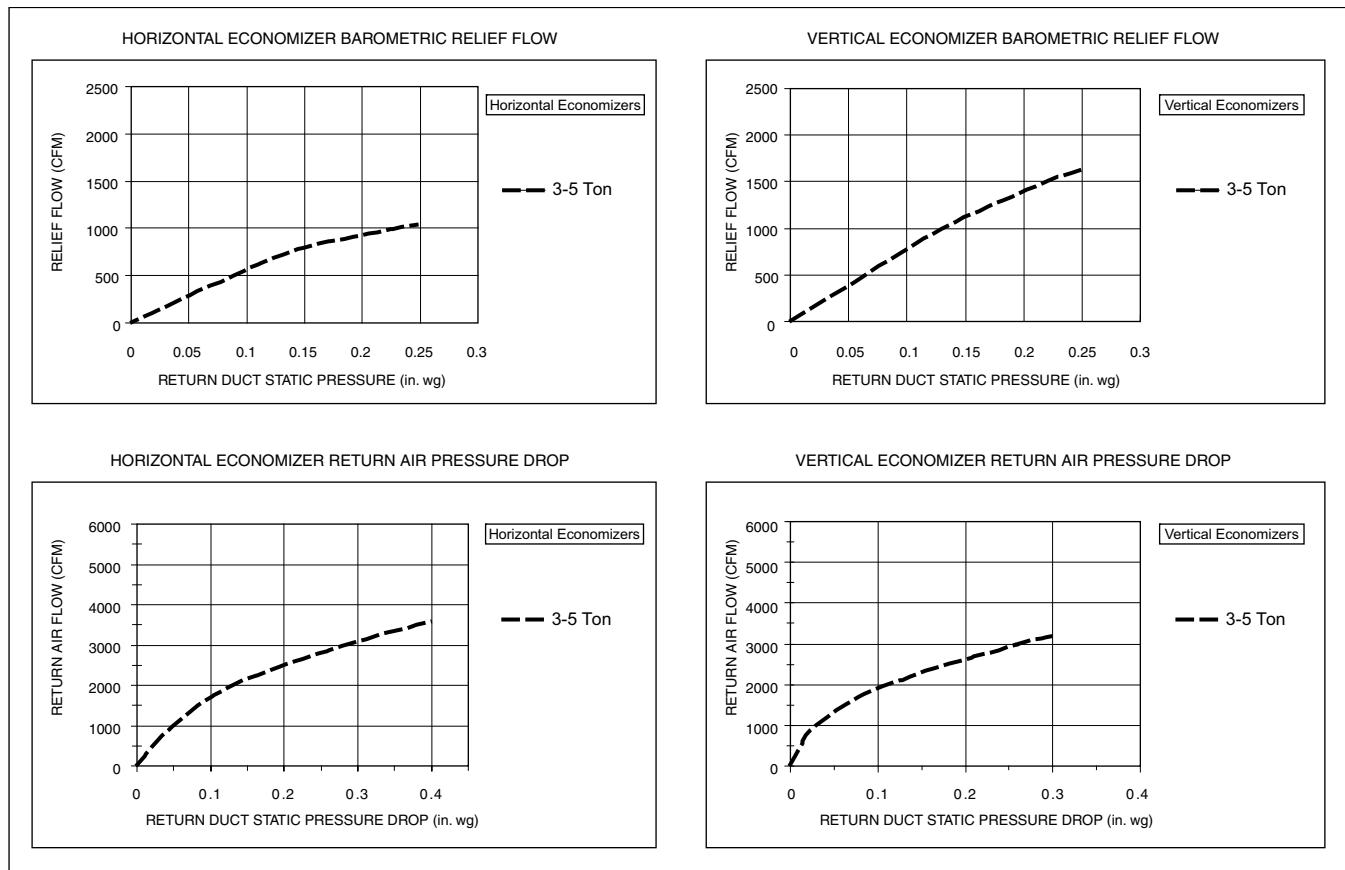

Fig. 70 — Outdoor-Air Damper Leakage
The standard controller is shipped from the factory configured for outdoor dry bulb changeover control. For this control mode, the outdoor temperature is compared to a selectable set point on the OAT sensor. If the outdoor air temperature is above the set point, the EconoMi\$er IV will adjust the outdoor air dampers to minimum position. If the outdoor air temperature is below the set point, the position of the outdoor air dampers will be controlled to provide free cooling using outdoor air. When in this mode, the Free Cool LED next to the outdoor enthalpy set point (ABCD) potentiometer will be on. The changeover temperature set point is controlled by the dip switches on the sensor. See Fig. 69 for the switch positions corresponding to the temperature changeover values. The ABCD potentiometer on the controller should be turned fully clockwise (CW) to the "D" position. See Fig. 70 for damper leakage.